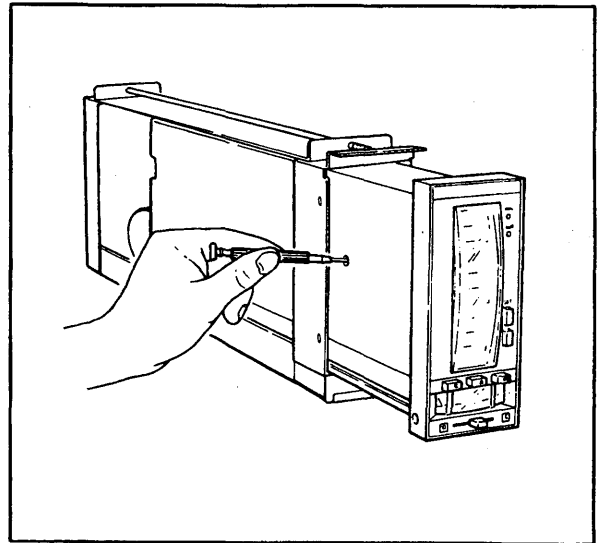

Figure 6-2-1. Zero Adjustment for Process Variable Indicator.
- (1) Apply 3.0V DC from a standard voltage source between input terminals 1 (+) and 2 (-). Refer to section 3-1-2.
- (2) Confirm that the process variable pointer is at the  $50\% \pm 0.5\%$  calibration mark on the scale.
- (3) If the indication is not within the specified range, adjust the zero adjustment screw as shown in Figure 6-2-1 until the pointer correctly indicates 50%.
- (4) Set the input signal alternately to 1.0V, 2.0V, 4.0V and 5.0V and ensure that the indicator respectively reads the 0%, 25%, 75% and 100% points using the calibration marks. Allowable tolerance is  $\pm 0.5\%$  of span.